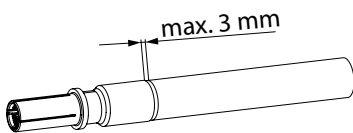

Fig. 32:
2. When doing so, ensure that the gap between insulation and contact is not more than 3 mm (Fig. 32).